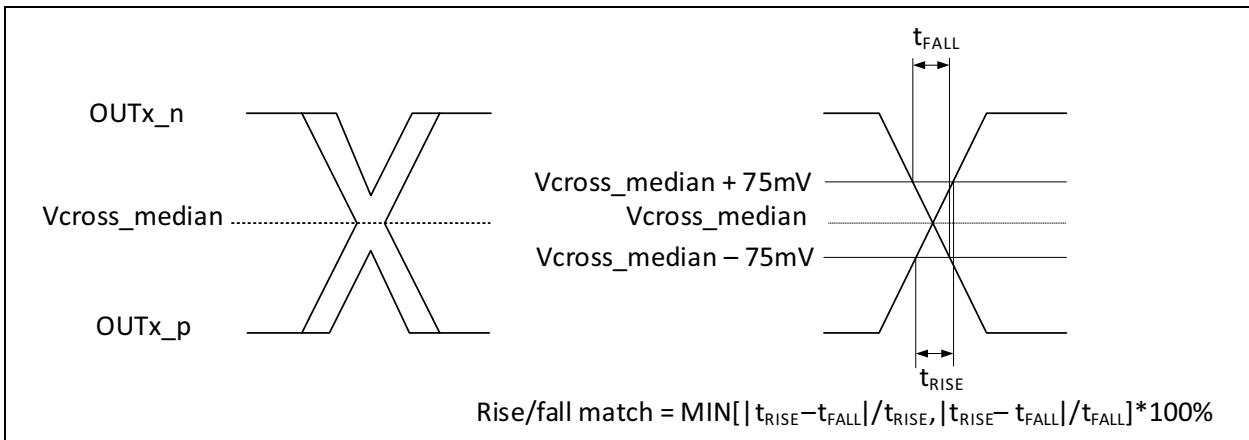

FIGURE 1-3: Single-Ended Measurement Points for Rise and Fall Time Matching.
- 10:** Matching applies to rising edge rate for $OUTx_p$ and falling edge rate for $OUTx_n$. It is measured using a ± 75 mV window centered on the median cross point where $OUTx_p$ rising meets $OUTx_n$ falling. The median cross point is used to calculate the voltage thresholds the oscilloscope is to use for the edge rate calculations. The Rise Edge Rate of $OUTx_p$ should be compared to the Fall Edge Rate of $OUTx_n$; the maximum allowed difference should not exceed 20% of the slowest edge rate. See Figure 1-3.